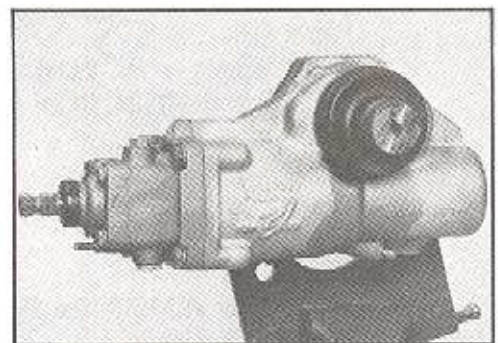

Figure 43
1. Position the steering gear firmly in a vise, clamping against the housing (47) mounting flange or boss, with the worm shaft (25B) in a horizontal direction and components accessible for disassembly. SEE FIGURE 43.